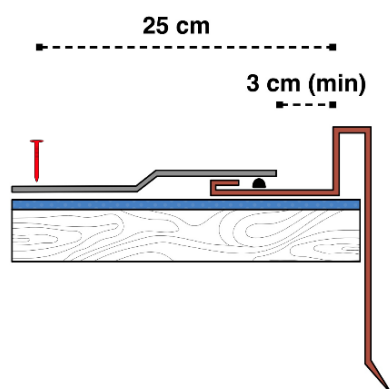

Fig. 4 - Lateral flashing detail
- Install the lateral flashing above the membrane/underlayer membrane applied to the roof. Apply a Bitustick bead to the external side of the lateral flashings. Proceed with the shingles installation, as described below, on the lateral flashing leaving a space of about 3cm between the end of the shingles and the edge of the lateral flashing – Fig. 4. Do not use nails less than 25 cm from the flashings.